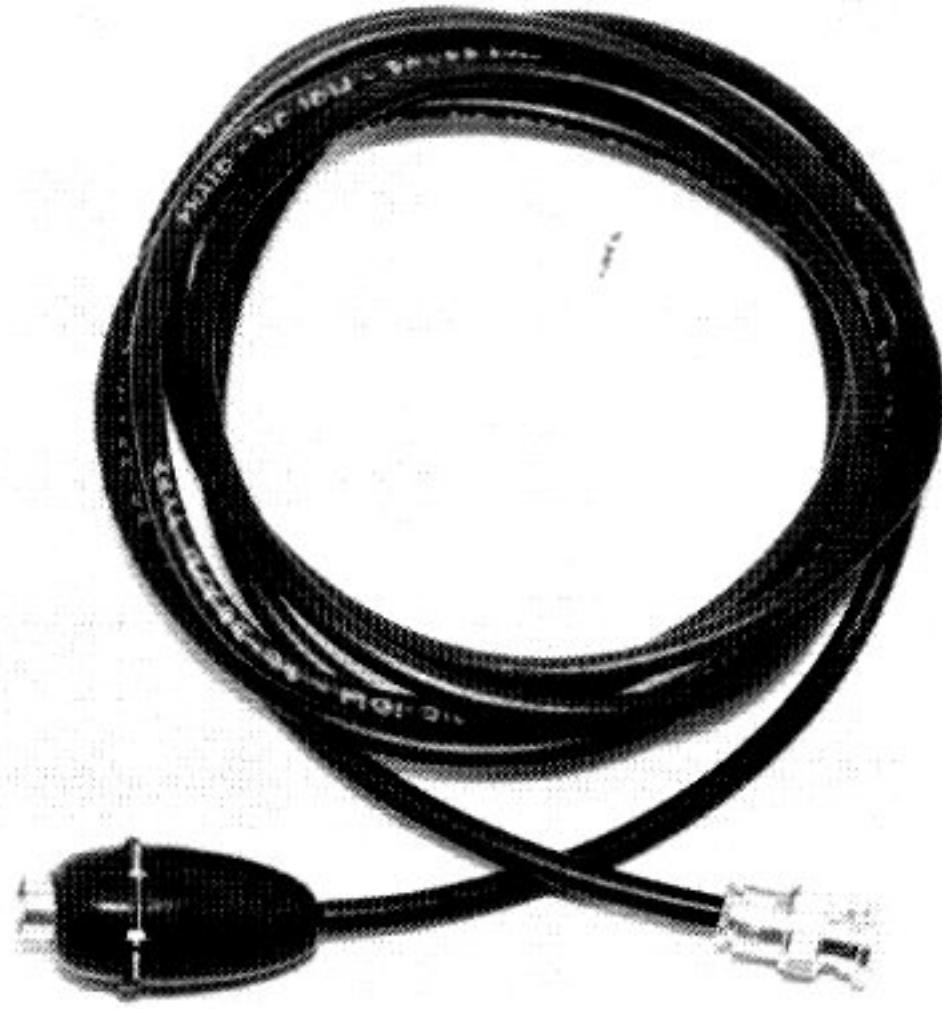

Figure 9
3.7 Short Coaxial Cable. This 8-foot cable (Figure 9) with mating connectors for the INPUT connector